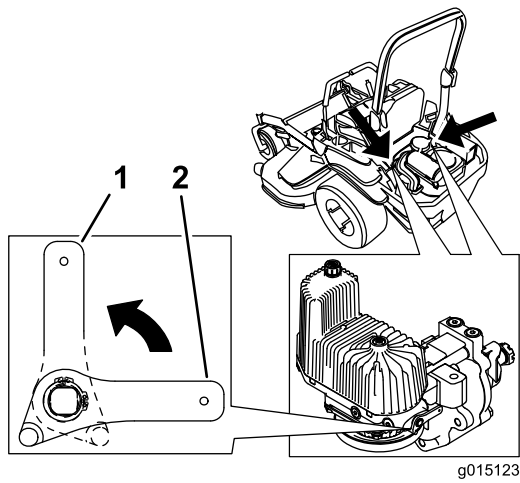

Figure 36
2. Rotate the release valve levers vertically to push the machine. This allows hydraulic oil to bypass the pump enabling the wheels to turn (Figure 36).
4. Rotate the release valve levers horizontally to run the machine (Figure 36).